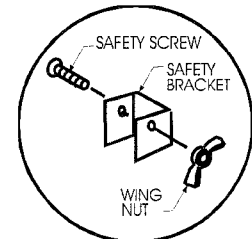

Fig. 5
10. After the water has stopped flowing into the decanter, remove the wing nut securing the safety screw across the power-fill switch and push the power-fill switch to the **ON (up)** position. (See Fig. 5)